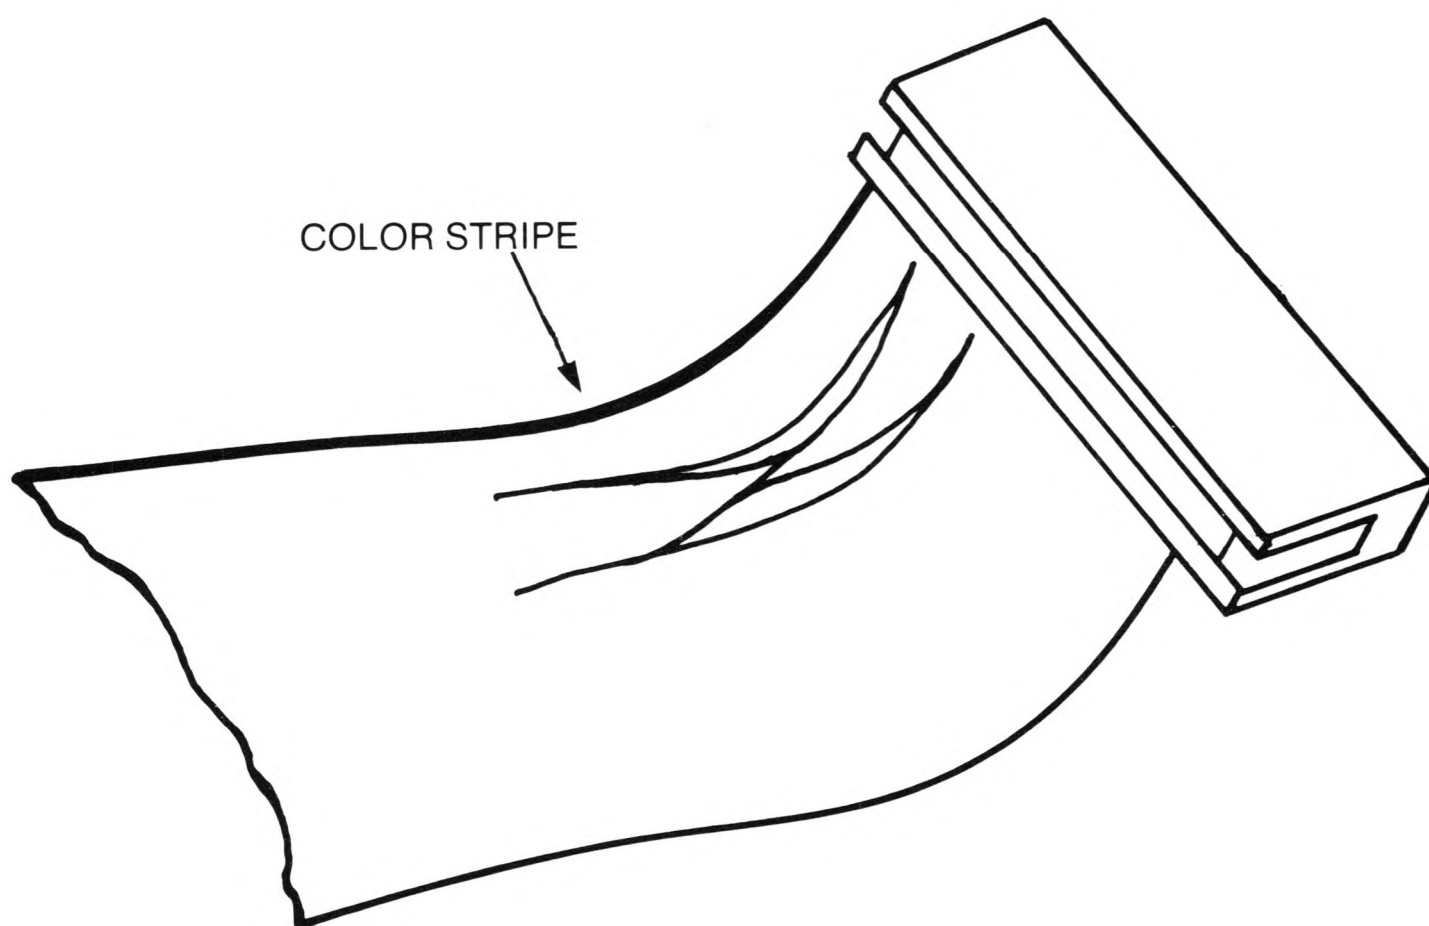

Figure 50A: Floppy Disk Drive Cable
**NOTE:** Refer to Figures 50A and 50B if you are uncertain about which 34-pin cable to use for the hard disk drive and the floppy disk drive. These cables are not interchangeable.
The 34-pin floppy disk cable has three connectors. The twist at one end of the floppy disk cable is close to the colored stripe on the cable. (See Figure 50A.)